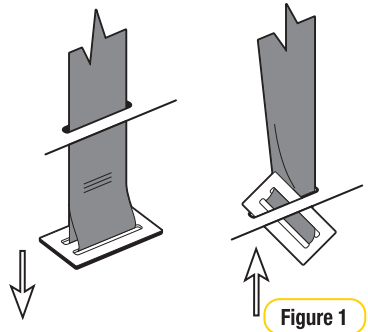

Figure 1
Step 1: From the underside of the restraint remove the screw and pull each crotch 3-bar slide then turn 3-bar slide and push through each slot to remove the Harness Buckle from the restraint (refer Figure 1).